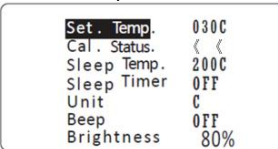

Fig.9
3.5 When Cal. status display "< <" (see Fig 9.) · it means "Real Temp." has calibrated to minimum temperature, can not decrease anymore, but it can increase temperature.